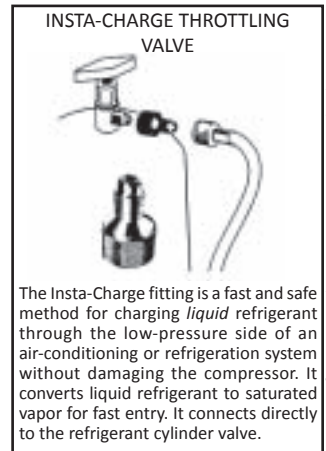

Figure 220
8. Charge system with SUVA MP 39, or SUVA MP 66. Only liquid refrigerant must be removed from refrigerant cylinder. To prevent any damage to the compressor due to liquid refrigerant entry, you may screw an insta-charge restrictor adapter on the valve on the refrigerant tank to instantly convert liquid refrigerant to saturated vapor before it reaches the system (see fig. 220). Begin charging 70% to 75% by weight of original R-12 charge. Begin charging 100% by weight of original R-500 charge.